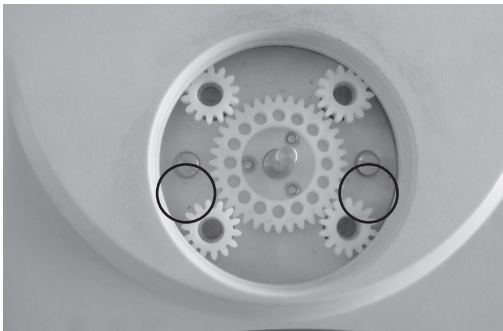

Fig.17
2.4.7 Remove the two screws and then remove all the white plastic gears. As Fig.17